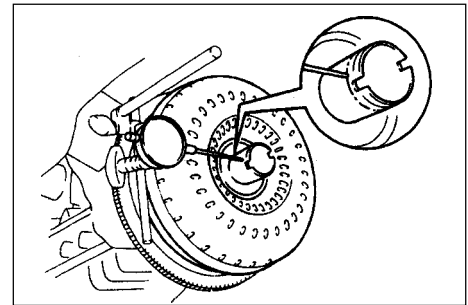

Figure 7-9
3. Check the hydraulic torque converter. (See Fig.7-9)